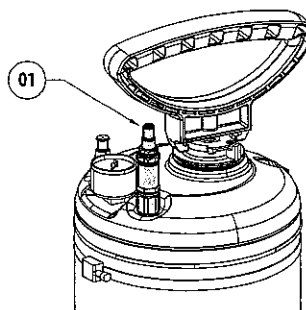

Fig. 26
Connect the compressed air pipe on the compressed air filling valve (01). Once the desired pressure is generated, remove the compressed air pipe. (Fig. 26, page 16).